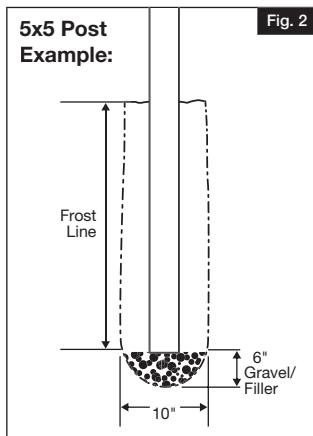

Fig. 2
- Dig the first two post holes. Hole size should be dug based on the following determination: Depth is determined by your local frost line measurements plus 6" for gravel/filler (Fig. 2). Width is determined by the post size. See chart below for measurements.